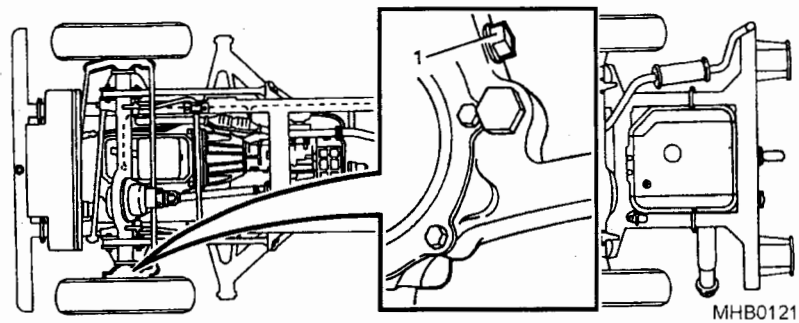

Fig 34 Swivel pin housing filler plug
38 There is a filler plug (Fig 34 (1)), this is for maintenance only.